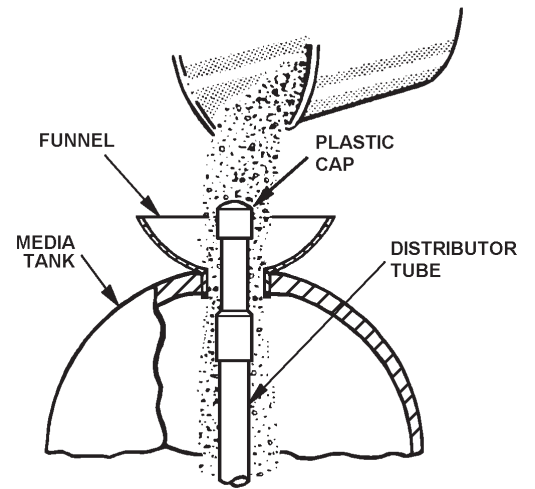

Figure 2. FILLING MEDIA TANK
- Remove the CONTROL VALVE by removing the latch and then the clamp around the adaptor base (Figure 2). Before loading the MEDIA into the tank, the distributor must be all the way to the bottom of the tank. It is therefore recommended that the distributor be removed and the gravel dumped out and saved. The distributor tube should then be replaced in the empty tank making sure it rests on the bottom. Use the centering tool provided to hold the riser tube in center and prevent MEDIA from entering the distributor. Material lodged in the distributor tube can enter the CONTROL VALVE, thus damaging it. First pour the gravel removed earlier back into the MEDIA TANK, followed by the MEDIA.
If installation is to be a split stream prior to media tank (figure 2) refer to special instructions following STEP 14.
When application is a split stream installation (Figure 2). Note the placement of the solenoid valve. The HIGH setting of the pressure control switch (which controls the opening and closing of solenoid valve) must be set a minimum of 2 to 3 lbs. LOWER than the normal LOW pressure encountered on the supply system. FAILURE TO DO THIS WILL NOT ALLOW PROPER CLOSING OF THE SOLENOID VALVE DURING PERIODS OF LOW SYSTEM PRESSURE.